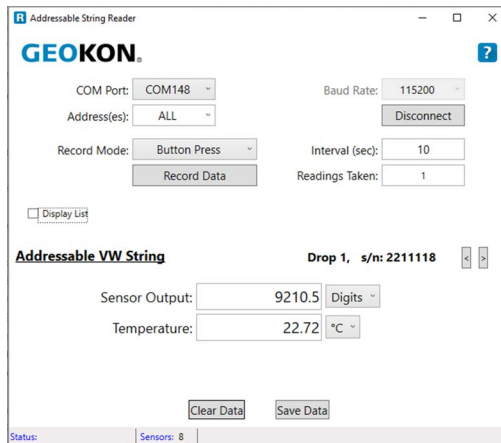
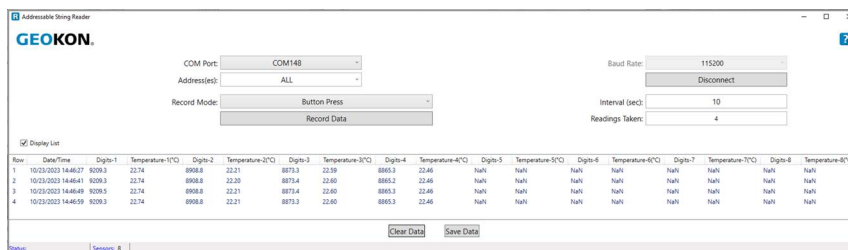

FIGURE 26: Display List Checkbox Enabled
FIGURE 27: Readings List Enabled
5. After one or more readings have been recorded, the "Display List" check box is enabled (Figure 26), allowing a "list" of readings to be displayed (Figure 27).